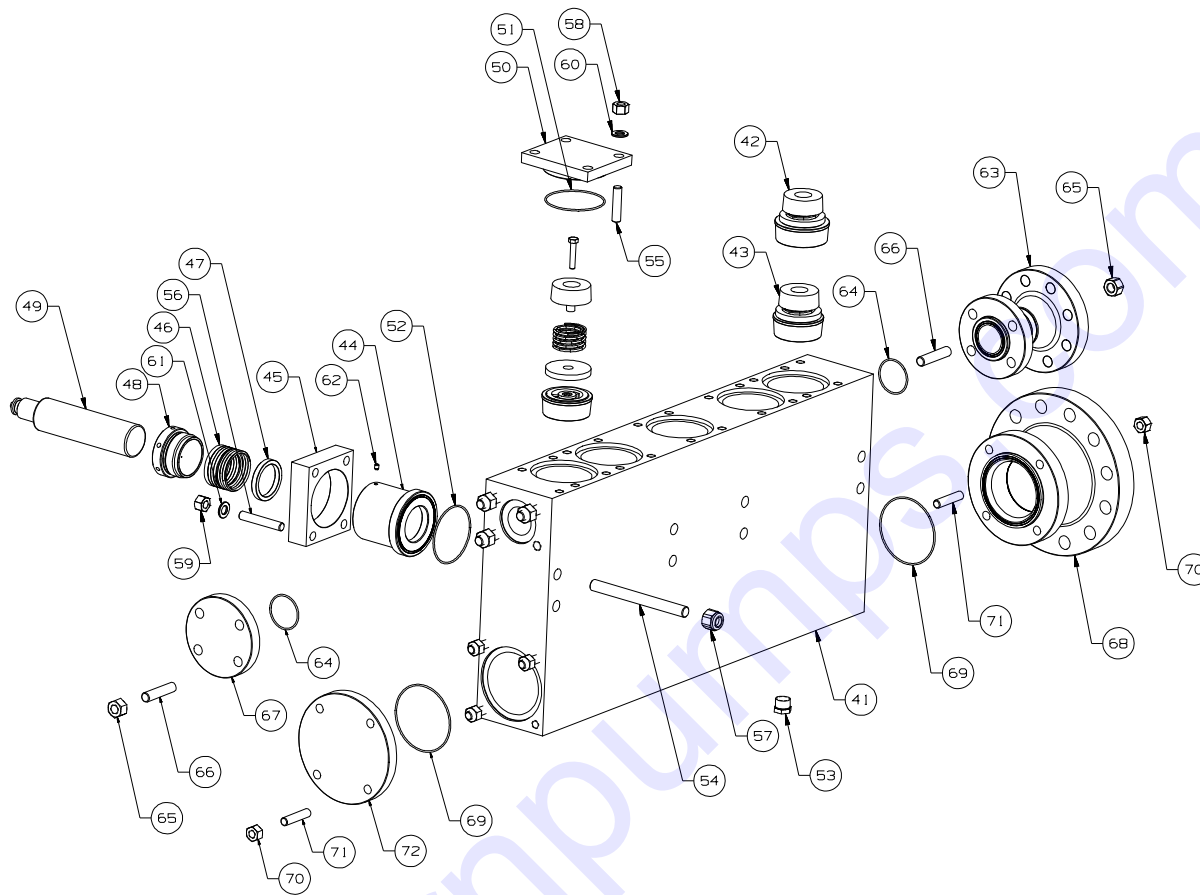
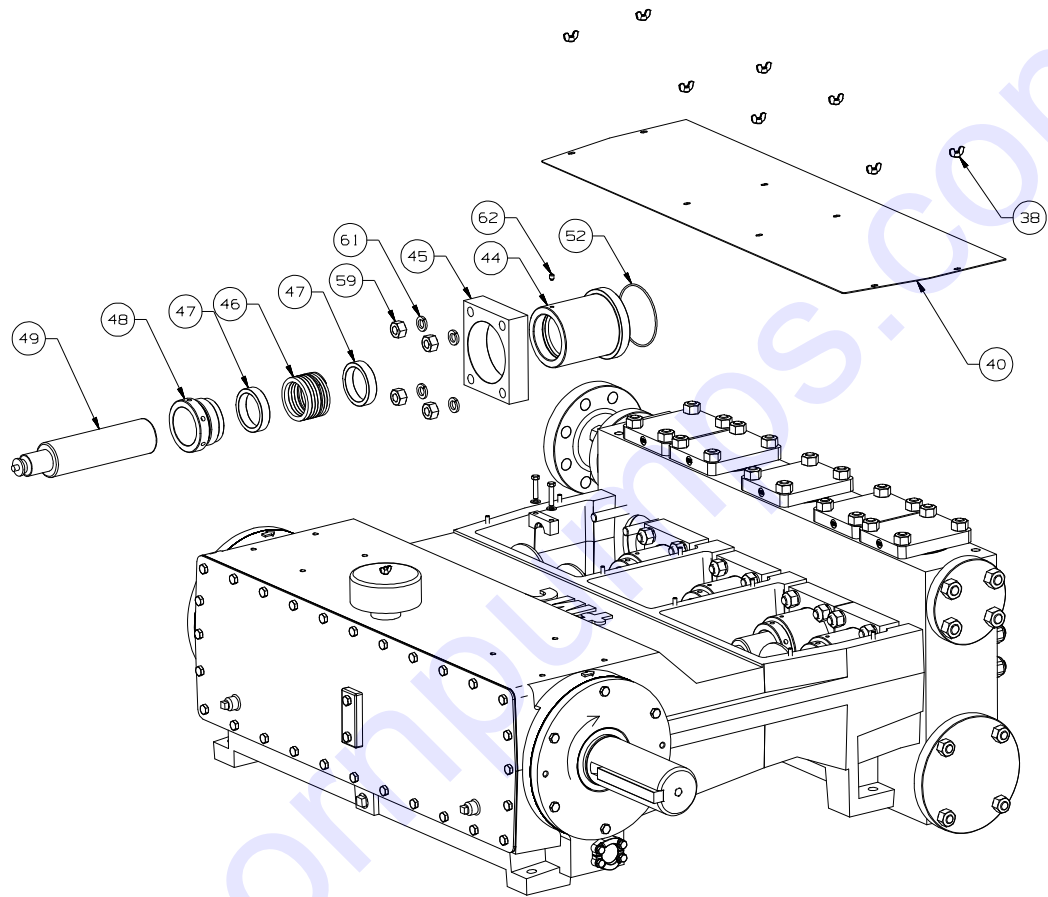

Figure 3: Fluid End Components
Figure 4: Plunger and Packing Removal
2. Refer to Figure 3 or Figure 4 for location of components. Unbolt the plunger clamps (18) and remove them from the plungers (49) and plunger rods (7). Removal Tip 1: If the plunger does not separate from the plunger rod (stuck together), place a wrench extension or rod between the plunger and the power frame. Rotate the crankshaft to move the plunger rod away from the plunger.
3. Loosen the set screw (62) locking the threads on the adjusting nut (48). Turn the adjusting nut counterclockwise to loosen. Use caution if the packing (46) is spring loaded. The adjusting nut will come off suddenly from the stuffing box due to spring force.
4. Remove the nuts (59) holding the stuffing box or stuffing box clamps (45) to the fluid cylinder (41) to allow removal of the stuffing boxes from the fluid cylinder counterbore. Rotate the crankshaft (2) by hand until one of the plunger rods (7) is fully retracted from the plunger (49) and push the plunger forward into the stuffing box to provide adequate clearance for removal. Removal Tip 2: Backing the plunger rod away from the plunger and adding a short rod such as a wrench extension located between the plunger and plunger rod will push the plunger further into the stuffing box and fluid cylinder. It may be necessary to hit the stuffing boxes with a rubber mallet to free them from the counterbores.
5. Slide the plunger and stuffing box out of the cradle of the pump as a single unit. Repeat this procedure for the other four plunger and stuffing box assemblies. Be careful not to lose the o-rings (52) that seal the stuffing box.
7. Remove the packing (46) by tapping out with a brass bar or by bumping the stuffing box on the table. Observe the type and orientation of packing components during removal. V-ring orientation, if V packing is installed, is critical to proper operation. The lips of the "V" must face the fluid chamber (41). Braided rope packing requires that the cuts in the rope are staggered at approximately 180° apart at installation.
8. Clean stuffing box bore and junk rings (47) such as throat bushing or lantern ring as required with 60 grit emery cloth and solvent. Clean plungers (49) with steel wool or solvent and a soft cloth. Clean other parts such as springs and adjusting nuts as required with a wire brush.
11. Reverse the previous steps to rebuild the pump after damaged components have been replaced. FMC suggests that all seals or gaskets that are disturbed during a service procedure be replaced. This includes the stuffing box face seal o-ring (52). Installation Tip: Apply grease around each o-ring before installing in the groove to prevent the o-ring from falling out when installed. Insure that all fasteners are tightened to the values specified in Fastener Torque Requirements, Section 11.0 of this manual.